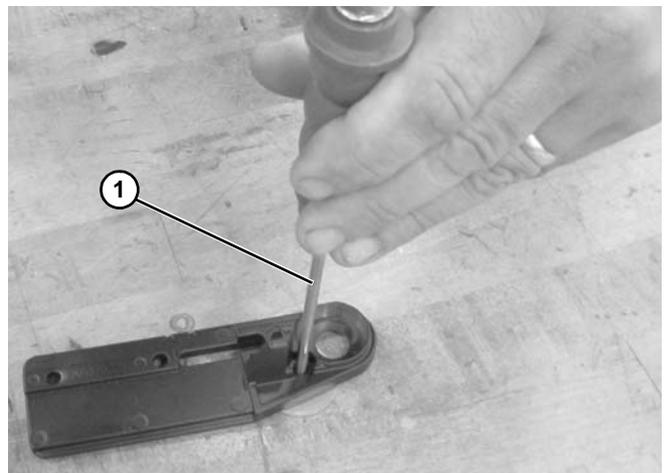

**Figure 69**
3. Use a hammer and punch (6 mm - 13 mm diameter) (**Figure 69, item 1**) or long bolt to knock out slug (**Figure 73, item 1**) for shaft backing up tail plate with washer.